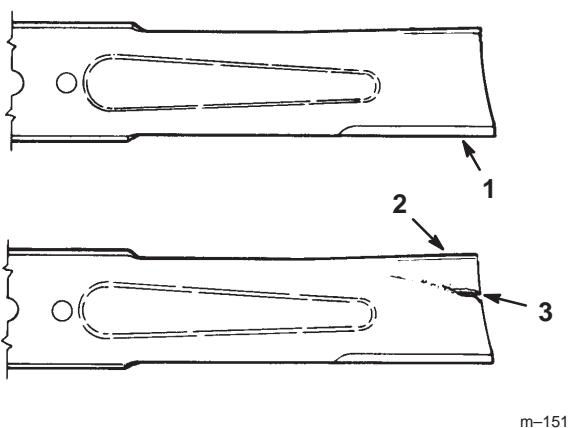

Figure 11
1. Inspect the cutting edges (Fig 11). If the edges are not sharp or have nicks, remove and sharpen the blades. Refer to Sharpening the Blades on page 12.
2. Inspect the blades, especially the curved area (Fig. 11). If you notice any damage, wear, or a slot forming in this area (item 3 in Fig. 11), immediately install a new blade.